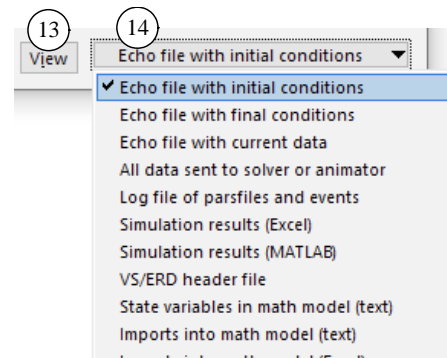

Figure 4. Drop-down control for View options.
The drop-down control in the lower right corner (14) contains information about the current simulation, viewable (13) using a text editor or spreadsheet (Figure 4).